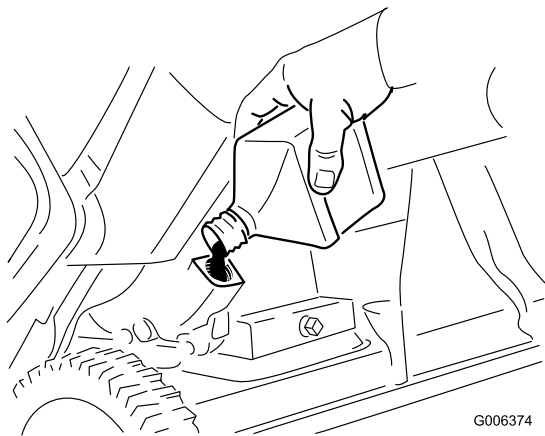

Figure 27
- With the snowthrower in the operating position, **carefully** pour oil into the oil fill hole to the point of overflow (Figure 27).